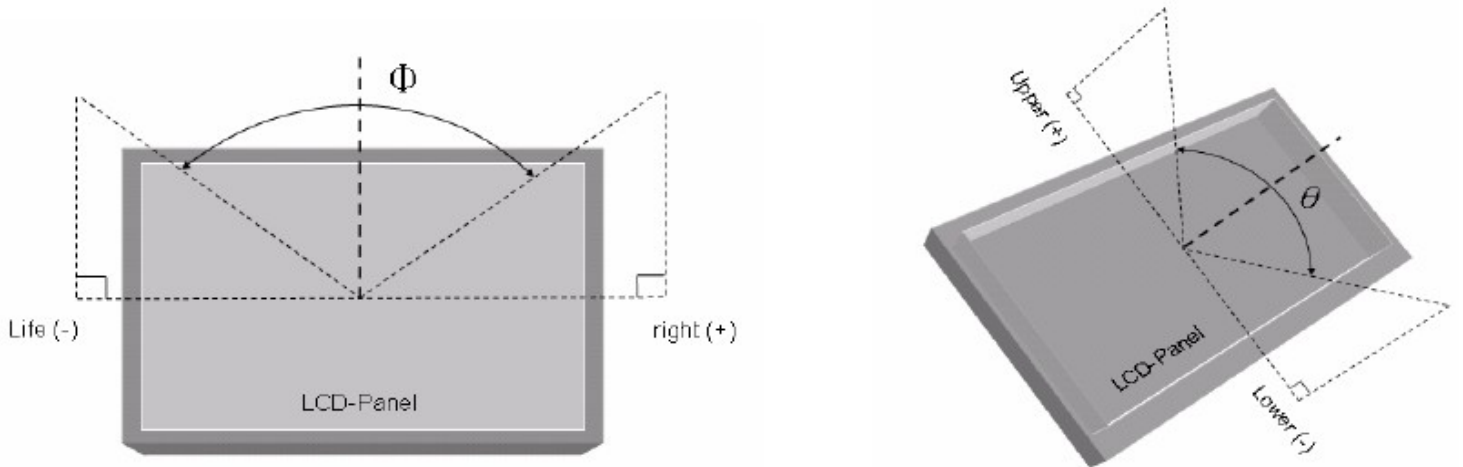

Fig8-2 Definition of Viewing Angle
(3) Definition of Viewing Angle (θ , ϕ), refer to Fig8-2 as below: